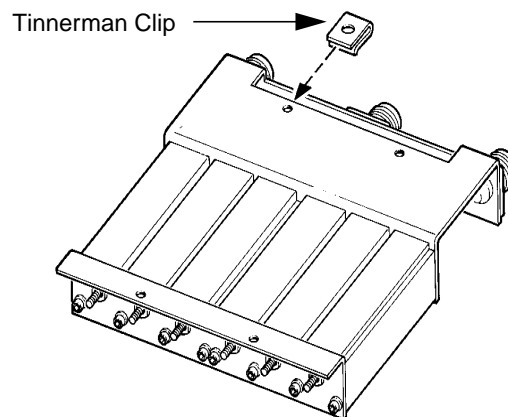

Figure 3-1. Duplexer, Bottom View
3. Using a pair of needle nose pliers, place the Tinnerman clips over the four mounting holes of the duplexer (refer to Figure 3-1).